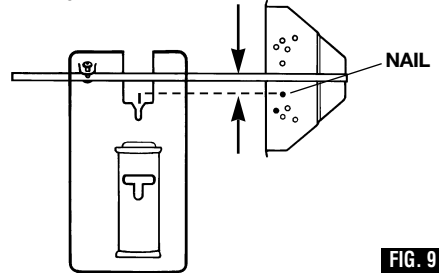

FIG. 9
3. Attach rip fence to saw with the edge guide facing UP. In order for the rip fence to cut a circle, the nail must be in alignment with the blade, as shown in (Fig. 9).